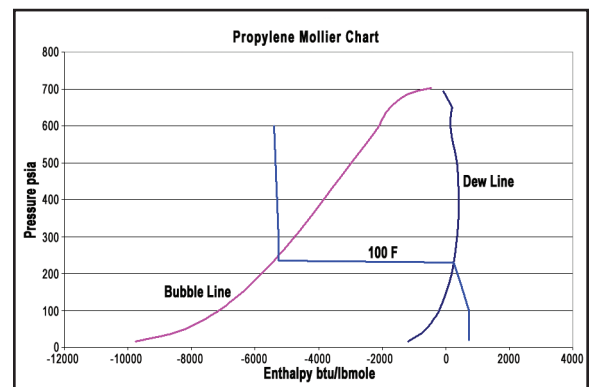
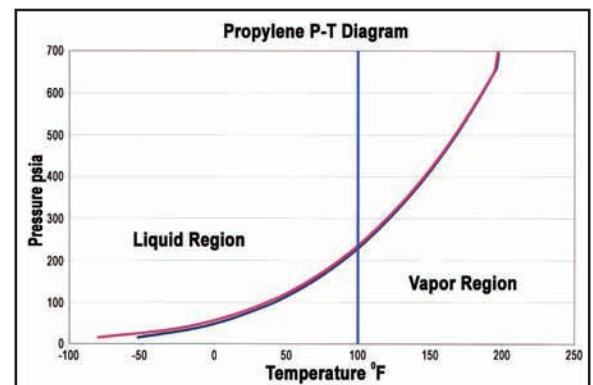

Figure 2. Propylene pressure-enthalpy chart.
Figure 3. Propylene pressure temperature chart depicting liquid - gas phase regions.
3. The compressor had to start with a settle-out temperature of 100 °F in the fluid system. [Note: Since there was no isolation of the liquid and gas sections, at 100 °F some of the liquid will vaporize (boil off) and the equilibrium system pressure will be 227 psia. This pressure exceeds the normal compressor discharge pressure of 215 psia. See the Pressure-Enthalpy diagram (Figure 2) and the P-T diagram (Figure 3, Ref. 4).]
The start up at a settle-out temperature of 100 °F would occur on a long-term shutdown because the refrigeration loop components are all insulated. As referenced earlier, Figure 3